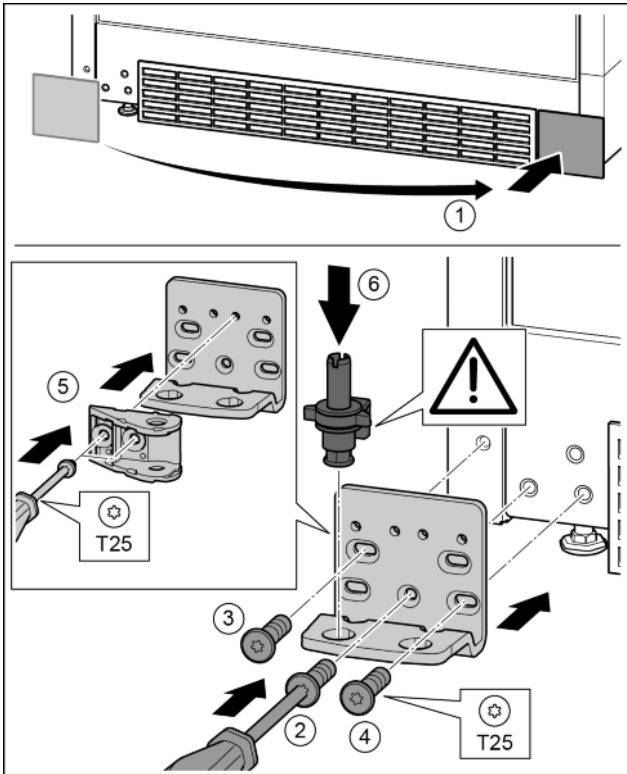

Fig. 29
- ▶ Remove the cover and fix onto the other side. *Fig. 29 (1)*
- ▶ Place the bearing bracket on the other side and screw in using a screwdriver. Start with screw 2 at the bottom in the middle. *Fig. 29 (2)*
- ▶ Screw in screws 3 and 4. *Fig. 29 (3, 4)*
- ▶ Rotate the door mount 180°. Screw in with a T25 screwdriver on the other side of the bearing bracket. *Fig. 29 (5)*
- ▶ Insert the bearing bolts completely. Ensure here that the catch mechanism points backwards. *Fig. 29 (6)*